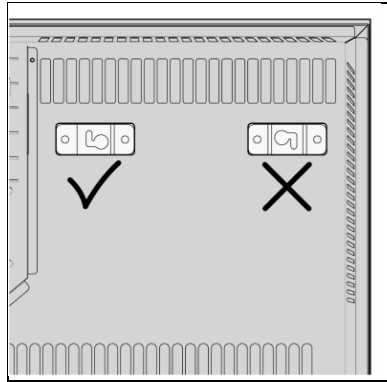

Figure 9
7. Before installing the brackets on the Alutherm Sani, double check the orientation (Figure 9).